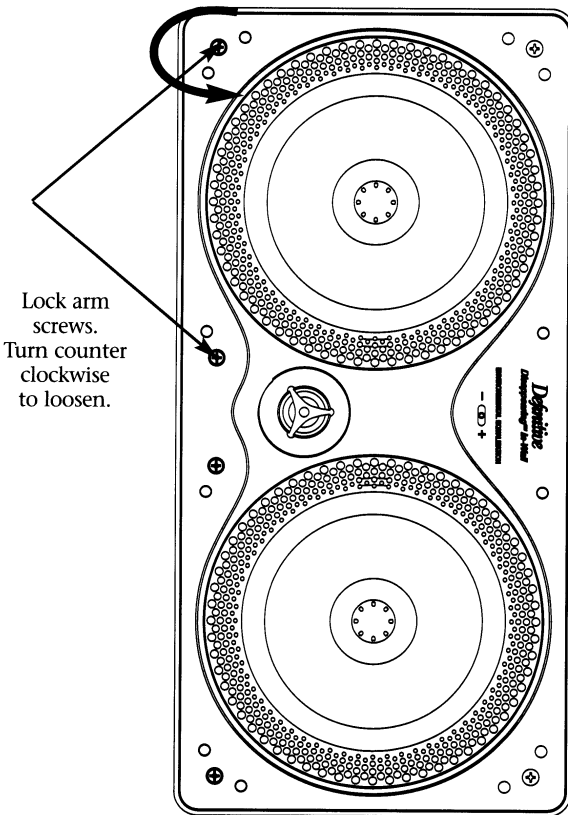
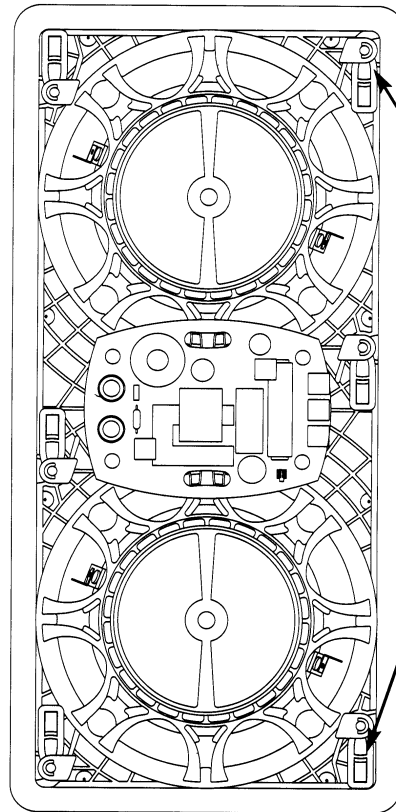

Figure 8
Figure 9
- Loosen the rotating lock arms by turning the lock arm screws on the front of the speaker counter clockwise 1/2 to 1 turn, just enough to allow the lock arm to move freely. [Figure 8]. Make sure that the rotating lock arms are flipped inwards [Figure 9] so that the speaker fits into the cutout.